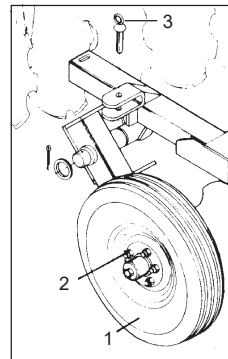

FIGURE 11
21 - Place the lock pin wheel item 3 on frame, as shown in **Figure 11**.